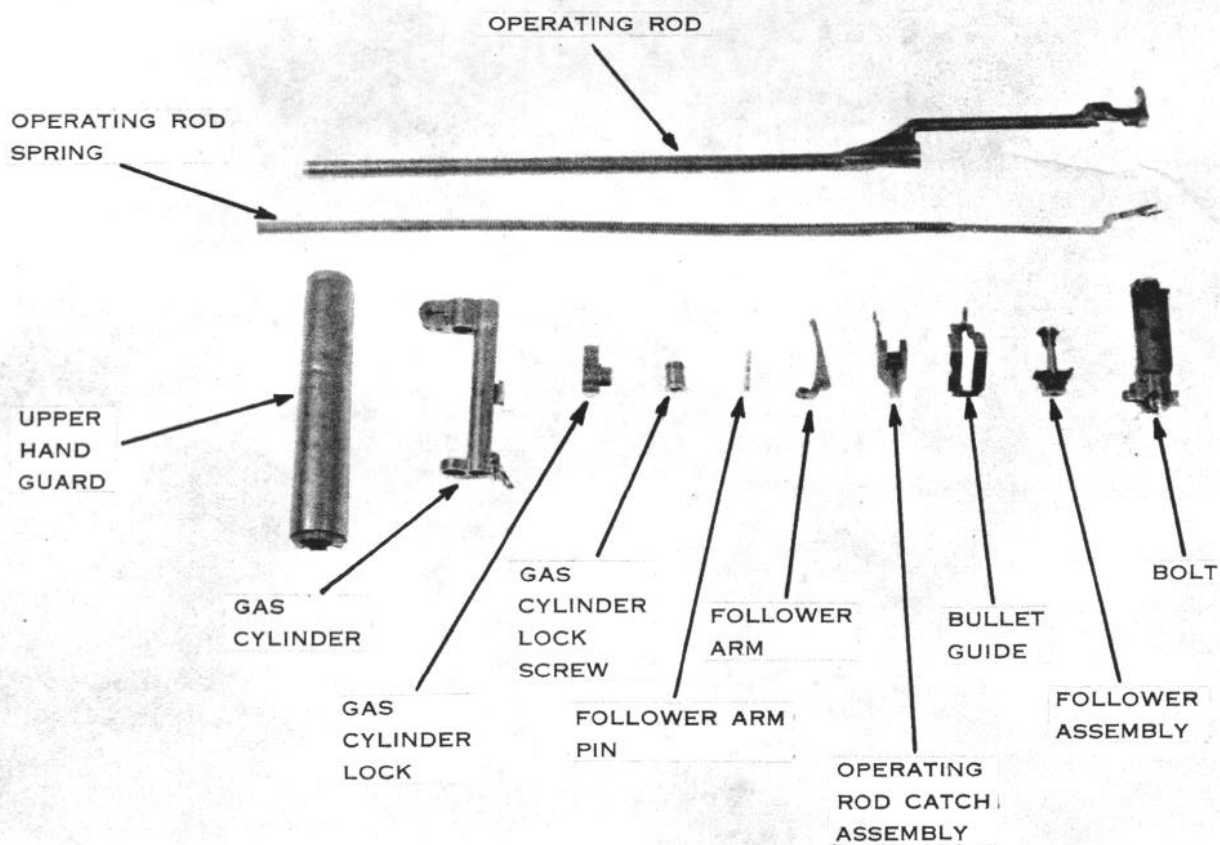

Figure 10. Parts of the barrel and receiver group in the order of disassembly.
j. The parts of the barrel and receiver group in their order of disassembly are shown in figure 10.